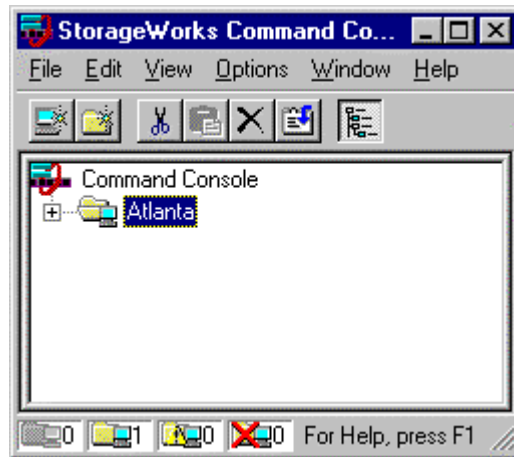

Figure 5-10. Navigation window showing storage host system "Atlanta"
5. Enter the host platform name, as defined in Agent, then click the *Apply* button. Command Console Client searches for, finds; then displays the storage subsystem's host system as an icon in the *Navigation Window* (Figure 5-10).